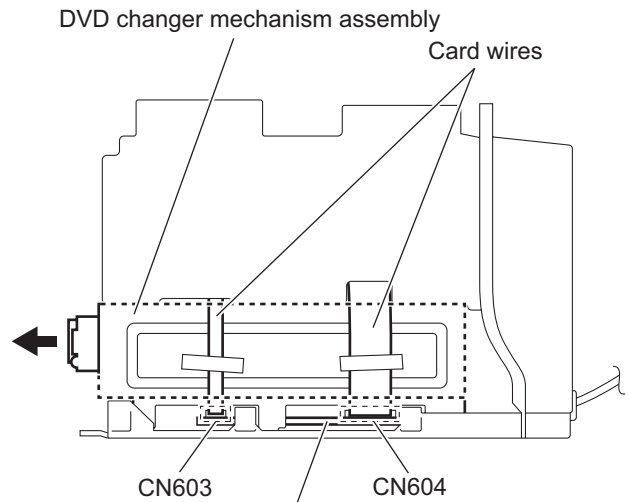

Fig.25
- (4) From the right side of the main body, disconnect the card wires from the connectors CN603 and CN604 on the connect board. (See Fig.25)
- (5) Take out the DVD changer mechanism assembly from the main body in the direction of the arrow. (See Fig.25)